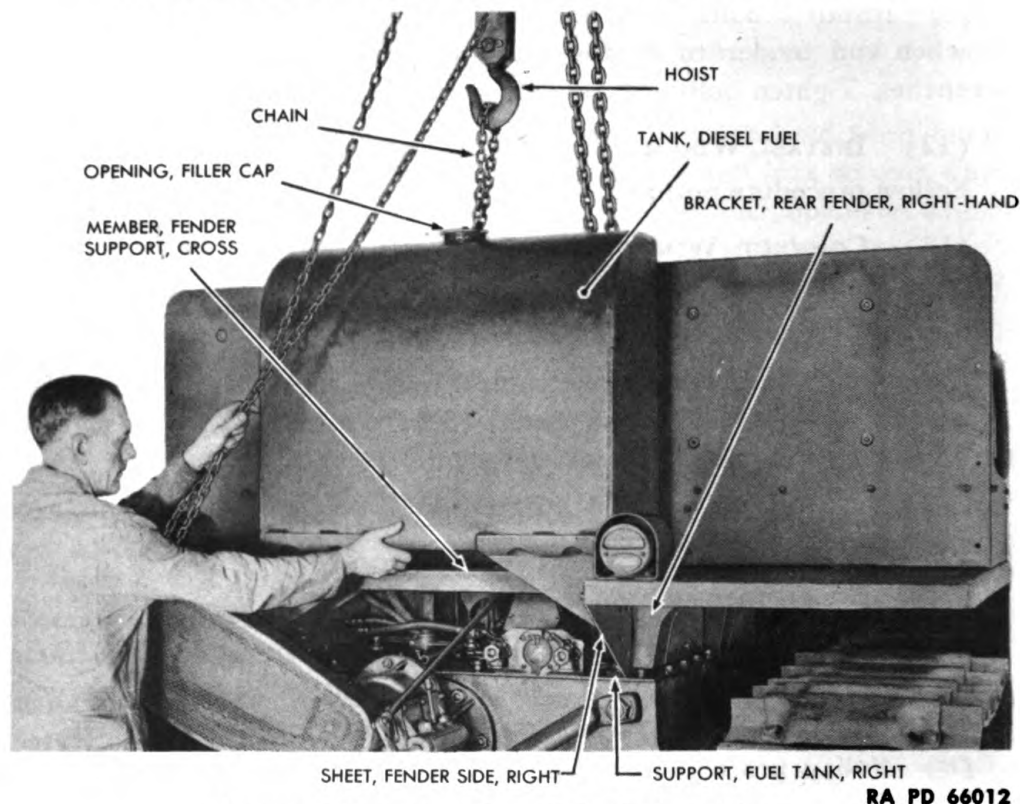

Figure 198 – Diesel Fuel Tank Installation
(20) INSTALL DIESEL FUEL TANK (fig. 198).